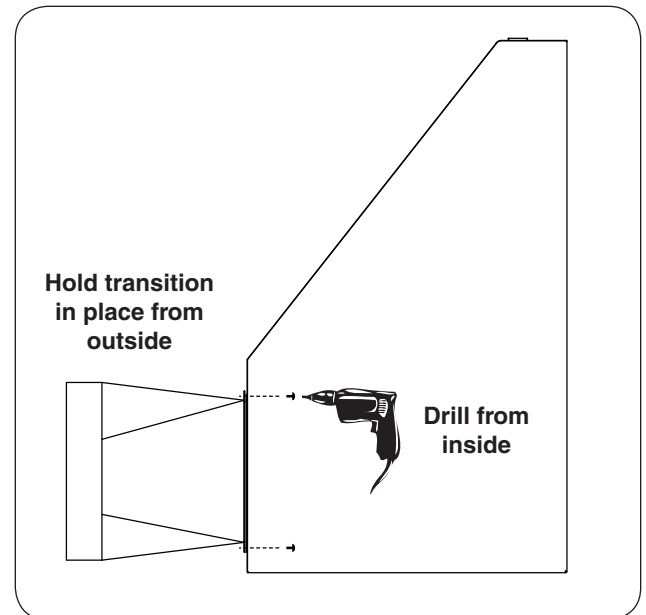

Fig. 10-2
3. Position the transition in place and secure using the provided screws. Reach into and fasten the screws from inside the vent hood. (An additional person should hold the transition in place while it is being fastened from inside.) See Fig. 10-2.